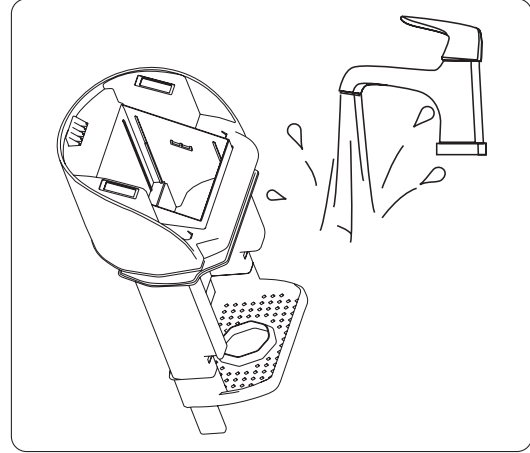

Figure 2
2. Remove the upper cover of the dirty water tank (Fig. 1) and rinse it with clean water (Fig. 2).